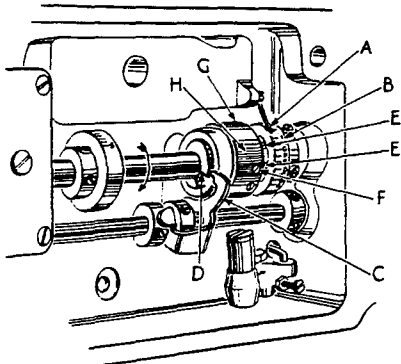

Fig. 26
3. Lay the machine on its side and set the stitch length of the top roller feed at its longest travel so that the pointer (A, Fig. 26) is at the letter "L" on the indicator (B). To accomplish this, depress the lever (C) and while holding it down, turn the handwheel in operating direction until the point of the lever is felt to drop into the slot (D) in the adjustable eccentric. Still holding the lever down, continue turning the handwheel until it can be turned no further. If at this point, the pointer (A) is not as the letter "L", loosen the two screws (E) in the hub of the indicator and turn the indicator on the shaft so that the letter "L" is at the pointer. Tighten screws.
4. Now check the synchronization of the top feed roller and the main feed. Raise the top roller off the bed plate by means of the hand lifter lever, turn handwheel in operating direction and observe the top roller and main feed dog. They should begin feeding at the same time. To synchronize the two feeds, lay the machine on its side and loosen the time screw (F, Fig. 26) in the adjustable eccentric. The time screw can be easily identified by the words "time spot" stamped on the right side of the eccentric. Now loosen set screw (G). If the top feed roller began feeding before the main feed dog, turn the eccentric (H) in the opposite direction from the operating direction of the main shaft. The operating direction of the main shaft is indicated by arrow (Fig. 26). Only a slight movement of the eccentric is necessary to change the time at which the top roller commences to feed. Tighten the two screws (F and G) and check synchronization. When tightening the two screws do not force the eccentric against the clutch driving arm as a bind may be created. If the main feed dog began feeding before the top feed roller, proceed as above except turn the eccentric in the same direction as the operating direction of the main shaft.
5. Changing the position of the top feed eccentric on the shaft will affect the location of the top feed stitch length indicator (B, Fig. 26) and it will now have to be re-set so that pointer stops at the letter "L" as described in paragraph 3 above.